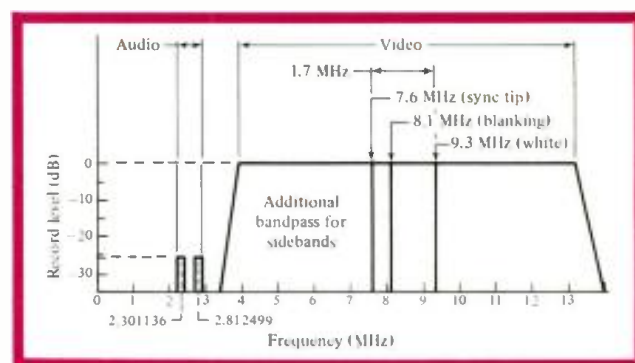

Figure 1. LaserDisc FM modulation spectrum
Figure 1. “Thickness” of ellipse depicts amount of stereo difference (L-R) signal. Note how much less L-R signal is present in first 5 seconds of play of a particular CD (A), compared with first 5 seconds of play of the equivalent LP disc (B).
Maximum allowable deviation for the FM carriers (which relates directly to the maximum allowable audio amplitude) is specified as ± 100 kHz for mono LaserDiscs and ± 50 kHz for mono and stereo CED discs. For both of these systems, the 0 dB reference is specified as 50 percent modulation. Therefore, in spite of different deviation limits, mono LaserDiscs and CED discs, as shown in FIGURES 1 to 3, have the identical 6 dB headroom at mid frequencies.